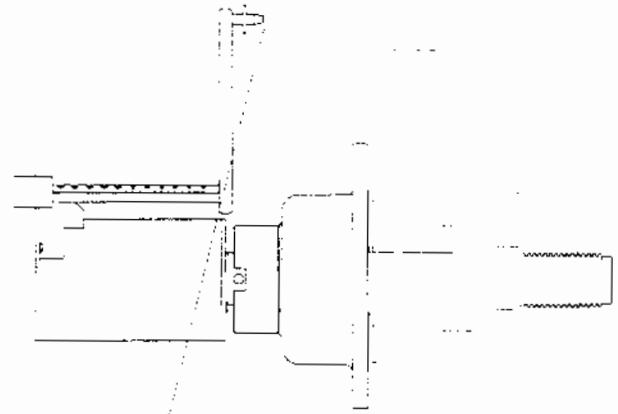

Figure 3
2. To activate the electronic *SAPÉ* system move the measurement arm to the edge of the rim, touch the pointer to the rim edge as illustrated in *Figure 3* and hold steady for about a second. The brake will pulse and the selected distance and diameter values will be entered automatically. Release the arm, making sure it returns to its home position on the balancer. Do not allow the measurement arm to "dangle" down in front of the balancer.